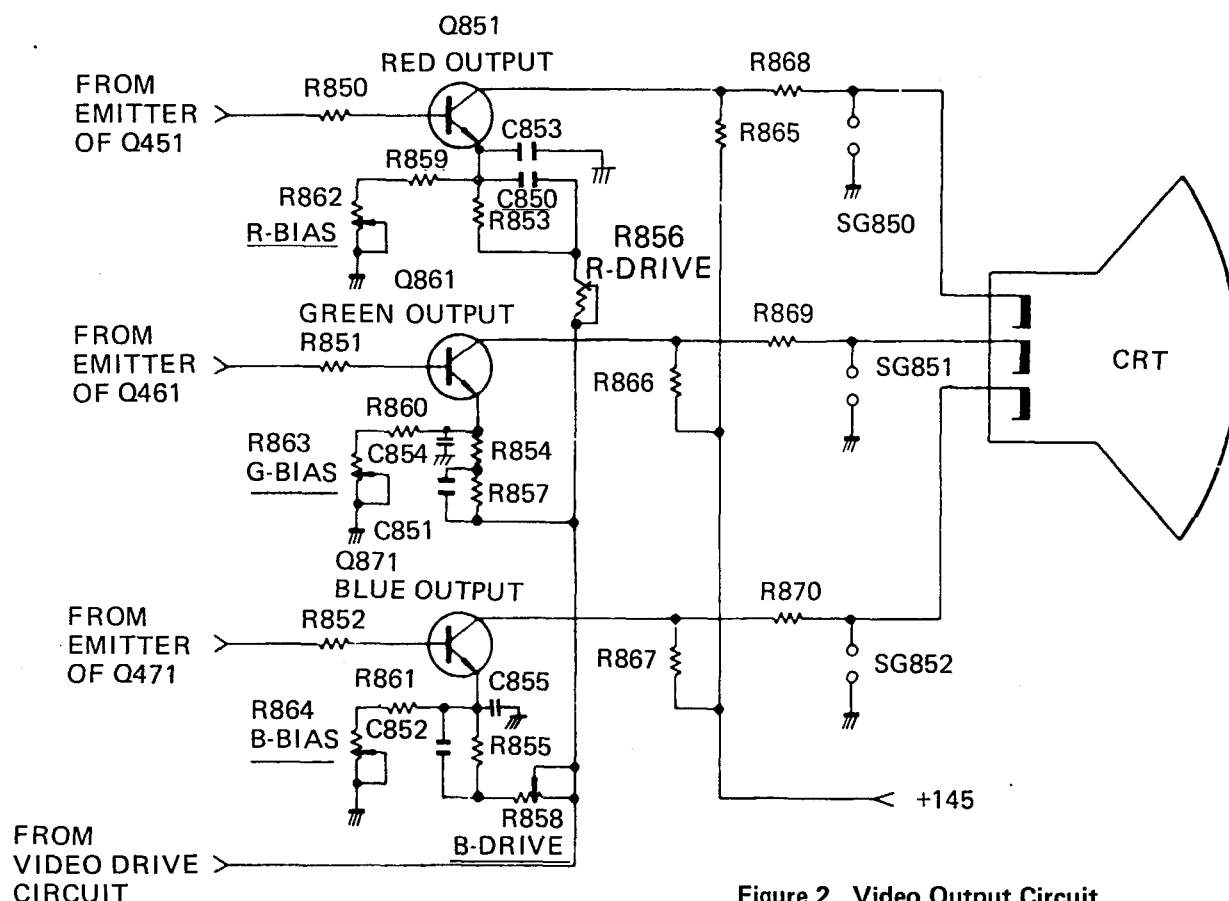

Figure 2. Video Output Circuit
2. Video (RGB) Output (Fig. 2)